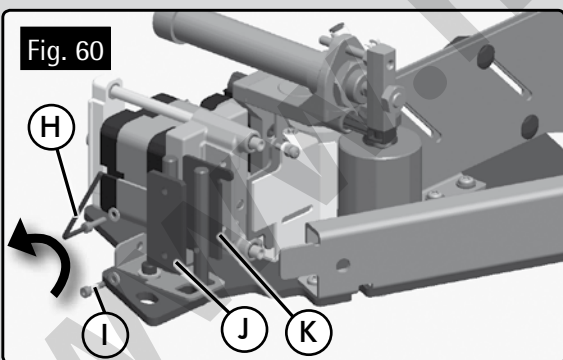

Fig. 60
- Remove the screws and washers I (Fig. 60), the flange J (Fig. 60) and the counter blade K (Fig. 60), using the service key H (Fig. 60) and replace the counter blade K (Fig. 60).